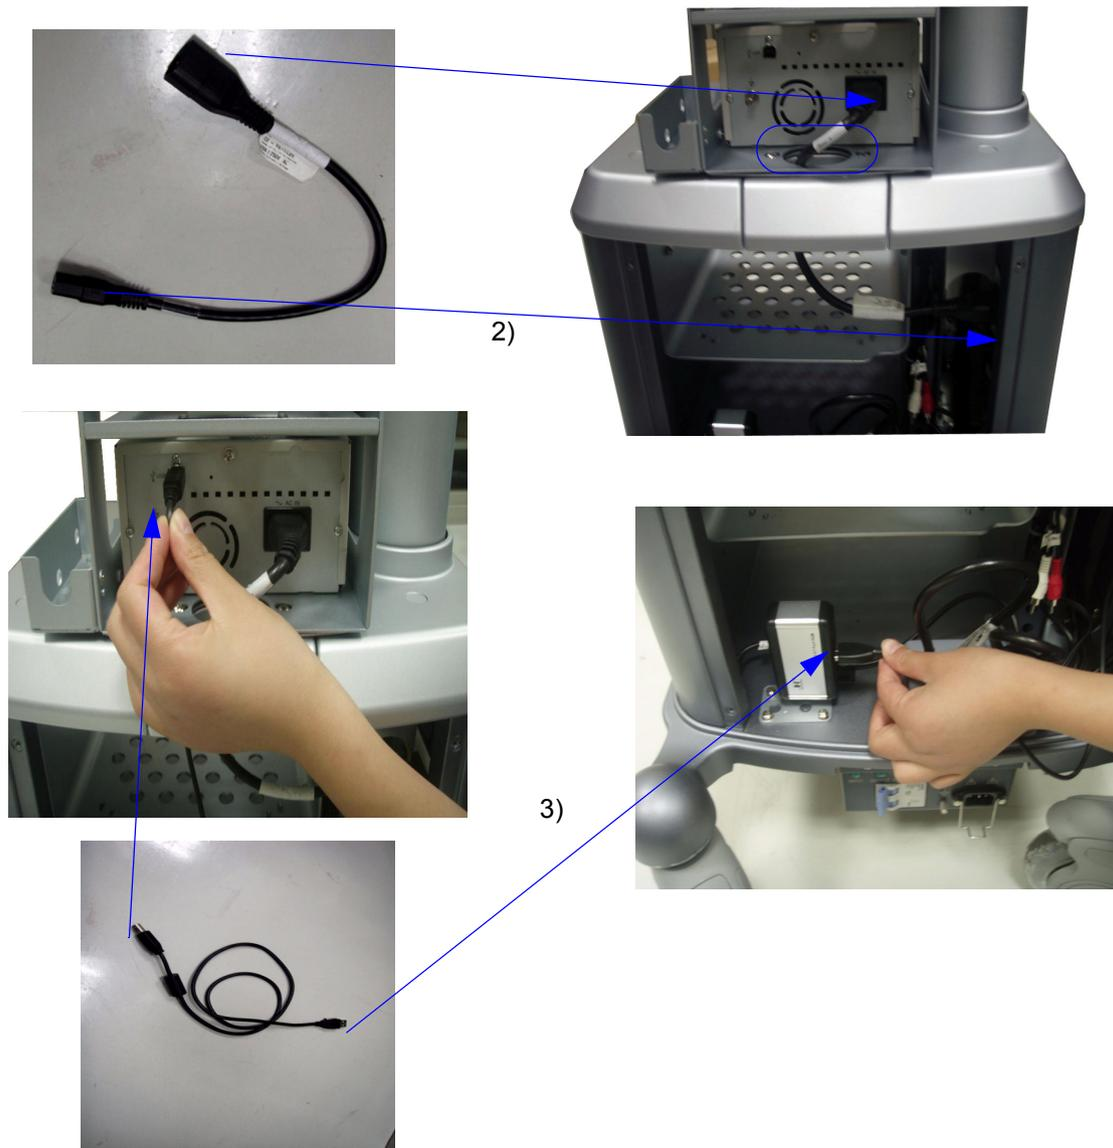

Figure 3-31 B/W USB Printer Installation
- 1.) Fix the B/W USB Printer on the Top DVD/Print Shelf, refer to Figure 3-31 on page 39 .
- 2.) Replace the power cord of the B/W Printer with general using cable. Use the general using cable through the Monitor Support Space Cap to connect the B/W printer to the power strip, refer to Figure 3-31 on page 39 .
- 3.) Connect the USB cable through the Monitor Support Space Cap to the USB Hub, refer to Figure 3-31 on page 39 .